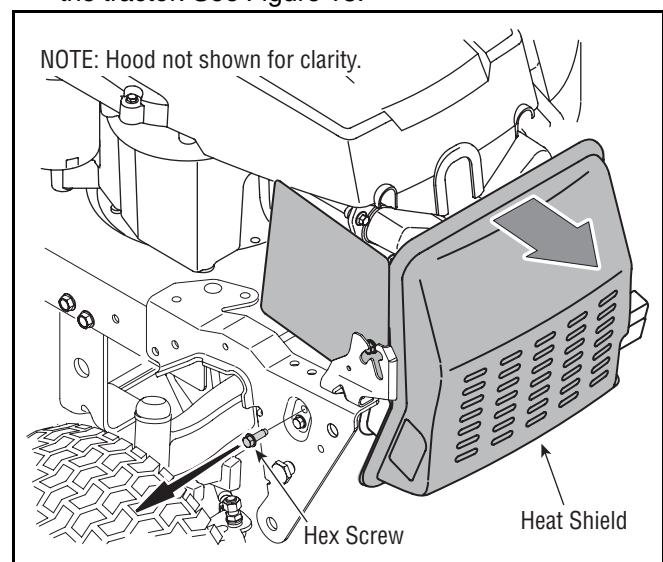

Figure 18
2. Remove the upper hex screws that secure the heat shield in place, on both the left side and right side of the tractor. See Figure 18.